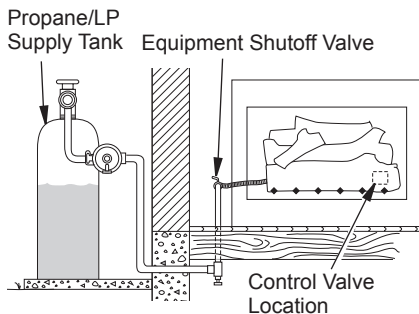

Figure 15 - Checking Gas Joints (Propane/LP Gas Only)
3. Check all joints from gas meter (natural gas) or propane/LP supply to equipment shutoff valve (see Figure 15 or 16). Apply a commercial leak detection solution to all joints. Bubbles forming show a leak.
4. Check all joints from gas meter (natural gas) or propane/LP supply to equipment shutoff valve (see Figure 15 or 16). Apply a commercial leak detection solution to all joints. Bubbles forming show a leak.